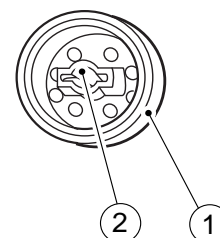

Figure 4-304
Install the pick-up roller ① so that the marking ② shown in Figure 4-304 is at the rear. (However, the parallel pin will not fit in the groove.)